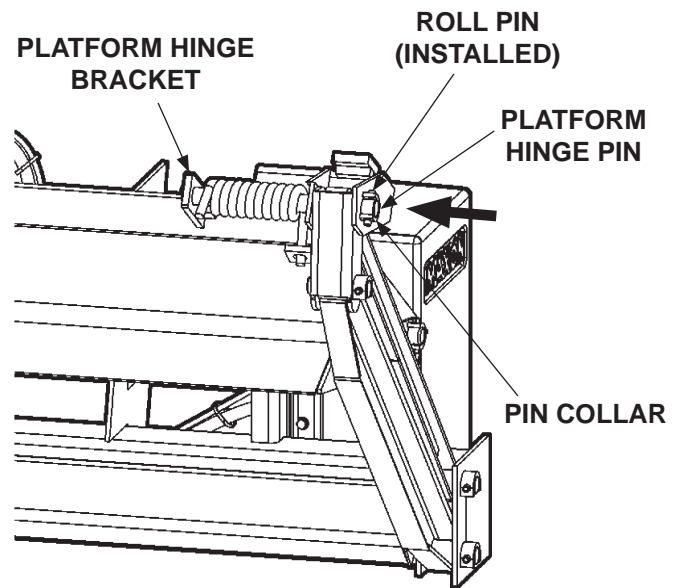

FIG. 21-1
5. Drive platform hinge pin inboard to correct position through the platform hinge bracket (**FIG. 21-1**). Line up the hole in the platform hinge pin with the hole in the pin collar. Install the roll pin through the pin collar until roll pin protrudes equally from both sides of the collar (**FIG. 21-1**).